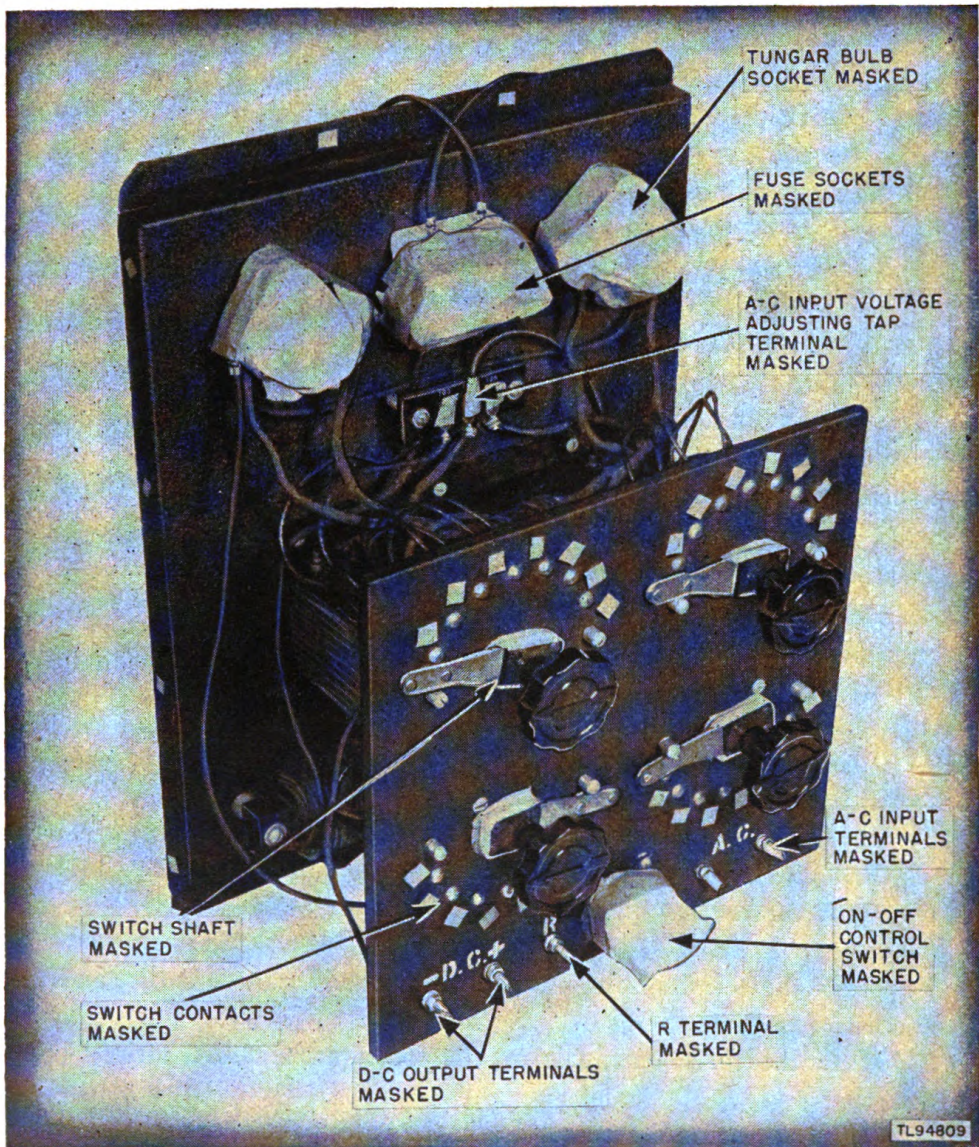
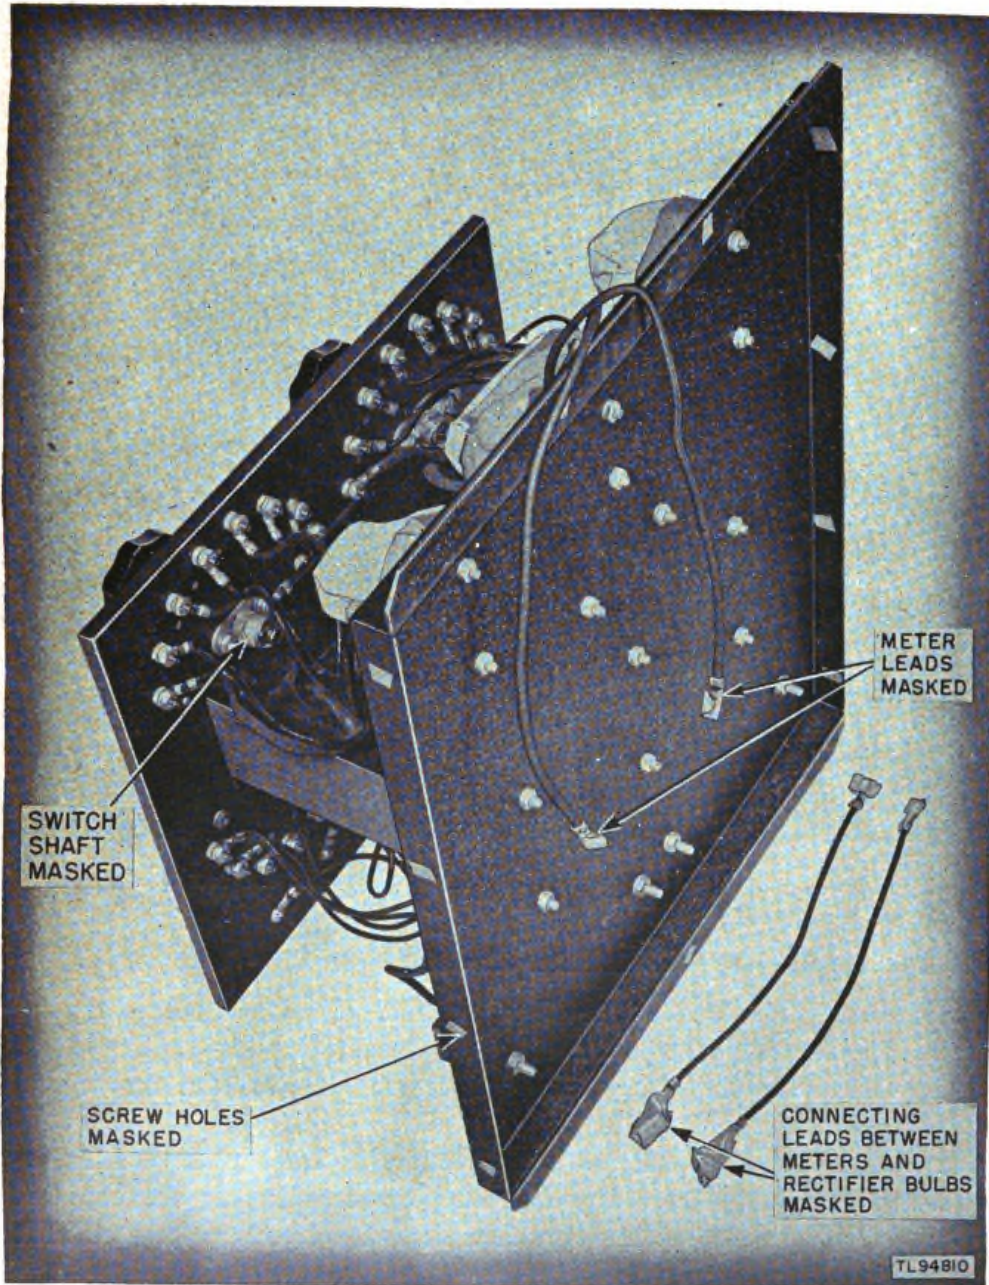

Figure 13. Rectifier RA-36-N, masking, front view, internal.
Figure 14. Rectifier RA-36-N, masking, rear view, internal.
(7) Disconnect the a-c and d-c power cords from the equipment at the bottom of the inner panel. Tag each lead as it is removed, in order to be able to identify them for reassembling. Place a tag on the lead that is connected to the d-c negative terminals, and mark the tag d-c. Place a tag on the leads that are connected to the a-c terminals, and mark the tag a-c. (See fig. 14.)
(8) Remove the eight screws, nuts, and lockwashers (four on each side at the baseline of the unit) holding the case to the base. Remove the case by raising it straight up until it clears the internal chassis of the equipment.
*d. MASKING.* (1) Mold paper covers for the rectifier bulb sockets and fasten the covers in place with masking tape. (See fig. 13.)
(2) Mold a paper cover for the porcelain fuse block and fasten the cover in place with masking tape. (See fig. 13.)
(3) Mold a paper cover for the ON-OFF control switch and fasten the cover in place with masking tape. (See fig. 13.)
(4) Cover each brass contact button on the four tap-changing switches with masking tape. (See fig. 13.)
(5) Cover the switch shaft of the four tap switches, where the shaft passes through the bearing plate, with masking tape. (See fig. 14.)
(6) Mask the d-c, a-c, and R terminals with masking tape. (See fig. 13.)
(8) Mask the three terminals on the a-c input terminal strip. (See fig. 13.)
(10) Cover with masking tape the two clips that were disconnected from the rectifier bulbs. (See fig. 14.)
*f.* VARNISHING. (1) Apply three coats of moistureproofing and fungiproofing varnish (Lacquer, Fungus-resistant, spec. No. 71-2202 (stock No. 6G1005.3), or equal). Allow each coat to dry for 15 or 20 minutes at the temperature specified in *e* above before applying the next coat.